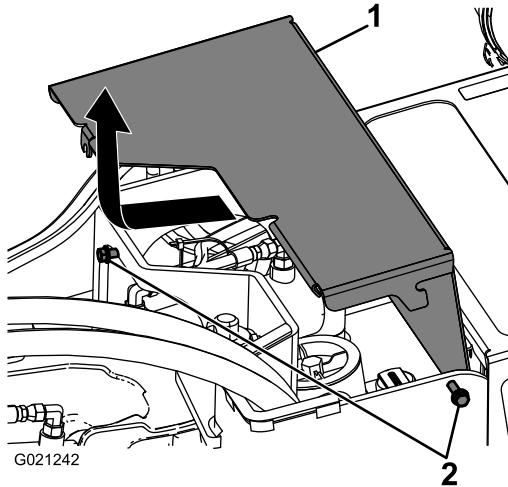

Figure 24
2. Loosen the 2 screws securing the front cover to the machine (Figure 24).
3. Slide the cover forward slightly and pull up to remove the cover (Figure 24).
2. Slide the front cover into place and tighten the 2 screws securing it to the machine (Figure 24).